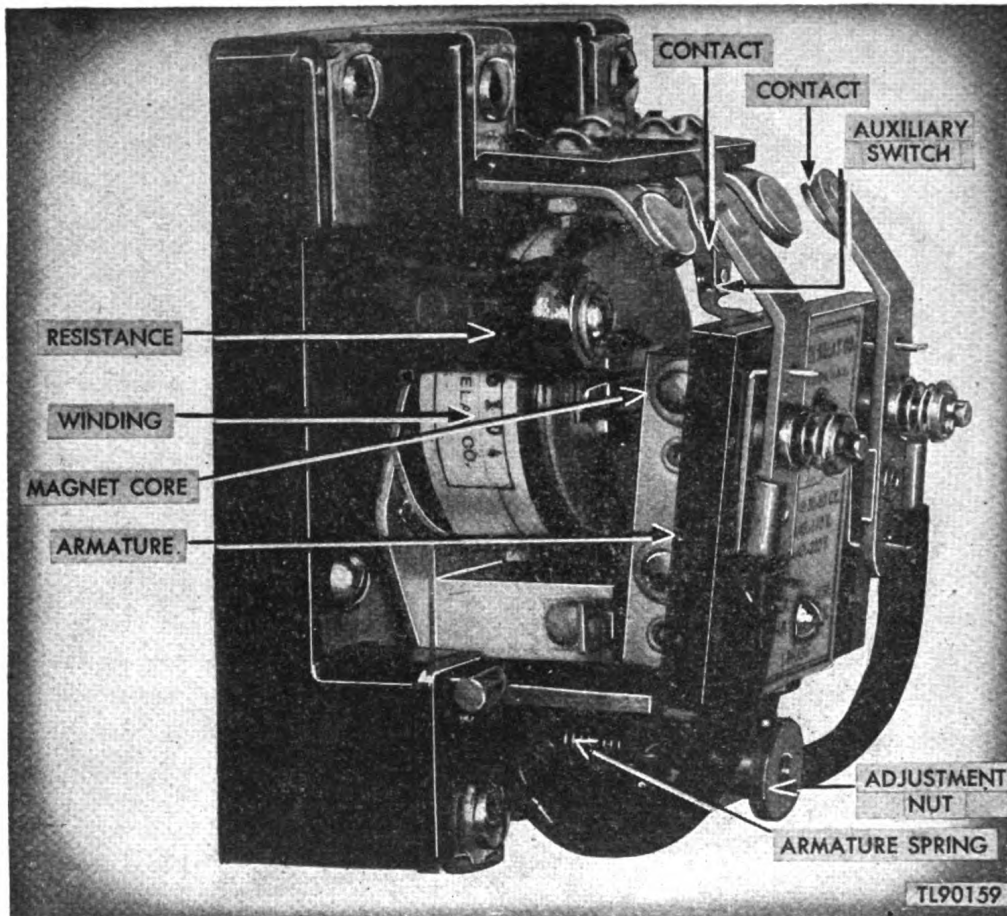

Figure 67. Starting relay in control box.
a. The starting relay (fig. 67) opens and closes the high- and low-voltage circuits. It is controlled from the transmitter position by a switch on the junction box. Only current passing through the output sockets is controlled by the starting relay.